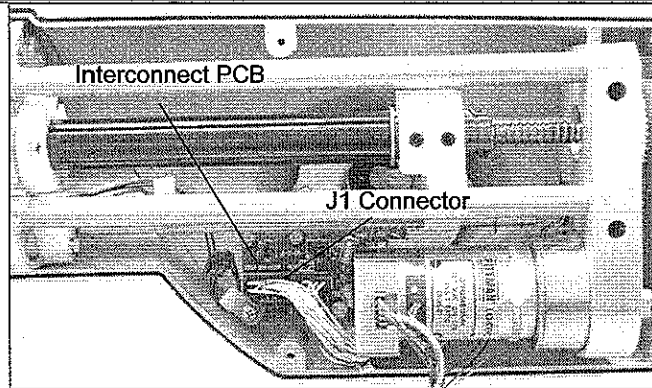

Figure 4-25b: Injector Head Front Enclosure
3. Remove the Injector Head's Rear Enclosure (see Section 5.5.1 – Replacing the Injector Head's Rear Enclosure) and disconnect the 24-pin connector from J1 on the Interconnect PCB (see Figure 4-25b).